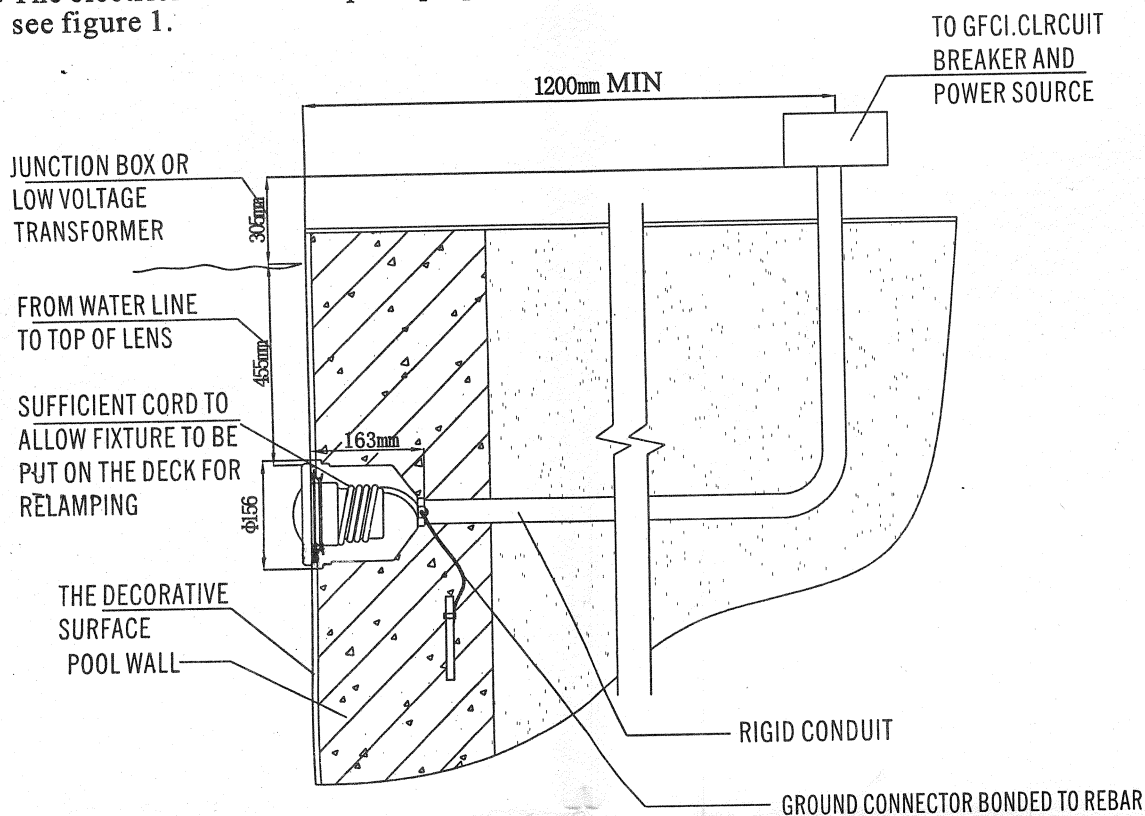

Figure 1
A. The electrician must complete preparatory steps before light fixture is installed; see figure 1.
B) The Junction Box (or, for 12 volt models, the low voltage transformer) must be located at least 20CM above water level, at least 10CM above ground level, and at least 120CM from the edge of the pool; see figure 1.
D) The wet niche must be properly installed so that the top edge of the underwater light's lens is at least 45.5 CM below the surface of the water in the pool; see Figure 1.
E) The wet niche must be properly electrically bonded and grounded via the NO.8 AWG ground connector located at the rear of the niche; see Figure 1.
1. Feed cord through conduit to Junction Box, leaving at least 120CM of cord the light fixture to coil around the light; see Figure 1. this 120CM of cord around the light allows the light to be serviced after the pool is filled with water.
3. Strip 15CM of the outer cord jacket to expose the three insulated wires. Be careful not to damage the insulation on the three (3) inner wires.
4. Connect all three (3) wires to the corresponding circuit wires in the Junction Box, and secure the Junction Box cover in place.